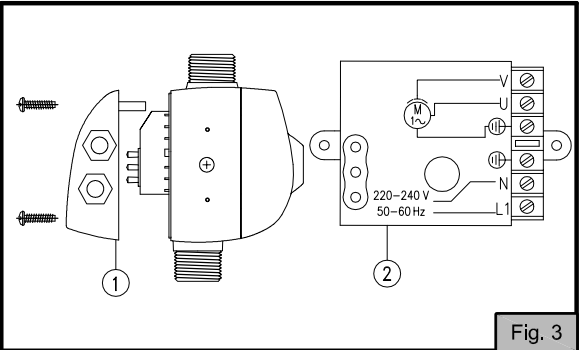

Fig. 3
ELECTRIC CONNECTION (FIG.3)
- C) Incorrect electric connection: verify the connections according to FIG.3.